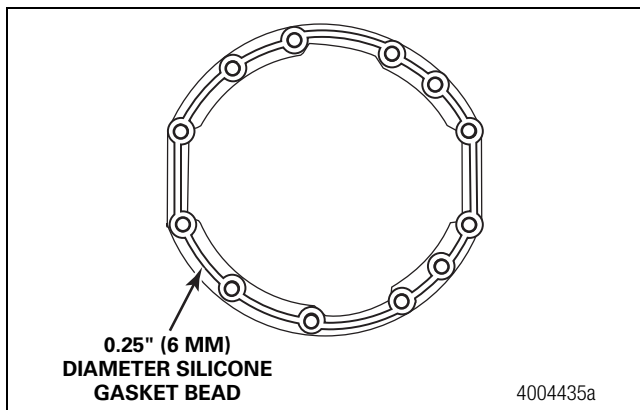

Figure 5.77
5. Apply a 0.25-inch (6 mm) continuous bead of silicone gasket material to the mounting surface of the housing where the carrier fastens. Figure 5.77.